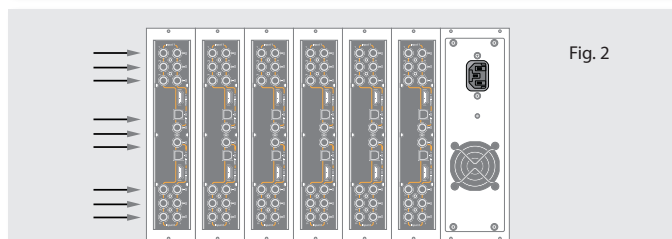

Fig. 2
2. The audio and video input signals connect to the back of the modules (Figure 2).